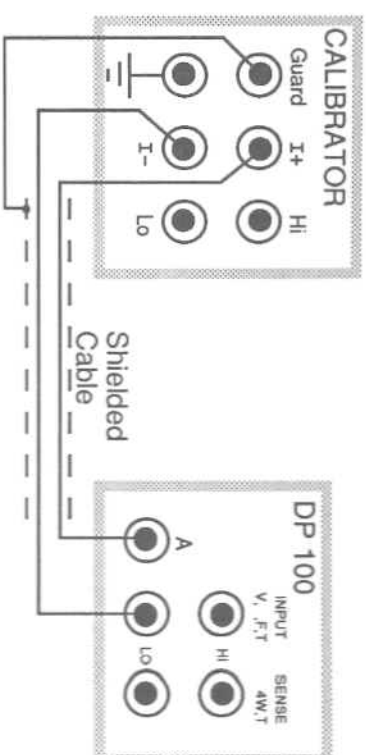
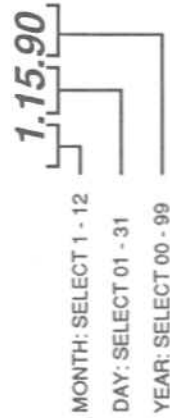

Figure 6-10. Connections for AC/DC Current
Figure 6-11. Calibration Due Date Format
- h. To continue the calibration procedure, go to step (6)c. To conclude the calibration at this point, press FUNCTION ▼ repeatedly until the CAL due date is displayed (Table 6-4, step 23) and go to step (10)c.
- (6) Calibrate 200-mA dc current range.
- c. Connect the calibrator to the DP 100 as shown in Figure 6-10.
- g. To continue the calibration procedure, go to step (7)d. To conclude the calibration at this point, press FUNCTION ▼ repeatedly until the CAL due date is displayed (Table 6-4, step 23) and go to step (10)c.
- (7) Calibrate 200-mA ac current range.
- h. To continue the calibration procedure, go to step (8)d. To conclude the calibration at this point, press FUNCTION ▼ repeatedly until the CAL due date is displayed (Table 6-4, step 23) and go to step (10)c.
- (8) Calibrate 2-A dc current range.
- g. To continue the calibration procedure, go to step (9)d. To conclude the calibration at this point, press FUNCTION ▼ repeatedly until the CAL due date is displayed (Table 6-4, step 23) and go to step (10)c.
- (9) Calibrate 2-A ac current range.
- h. To continue the calibration procedure, go to step (10)c.
- (10) Entering a CAL Due Date.
- b. Press FUNCTION ▼ repeatedly until the CAL due date is displayed (Table 6-4, step 23). See Figure 6-11.